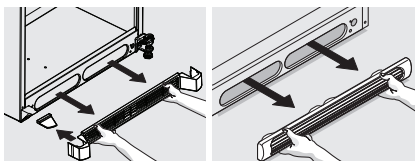

Figure 1
- Retirez la grille de protection. (Figure 1).